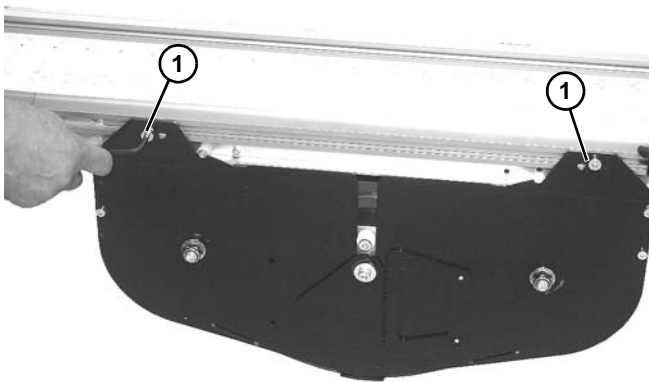

Figure 62
5. Install and tighten two screws (**Figure 62, item 1**) on each side to secure assembly to frame.